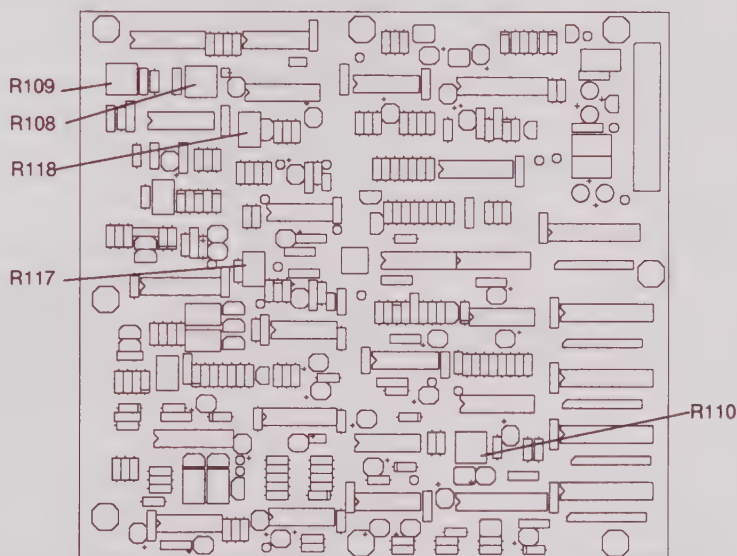

Figure 6-1. A3 PCB Adjustments
- Step 6.** Observe that the log conformity (L) and temperature thermistor (T) values appear in the menu area (top left).
- Step 8.** On the A3 PCB, adjust variable resistor A3R108 (Figure 6-1) to obtain a displayed L value of 0.00 ± 0.01 .